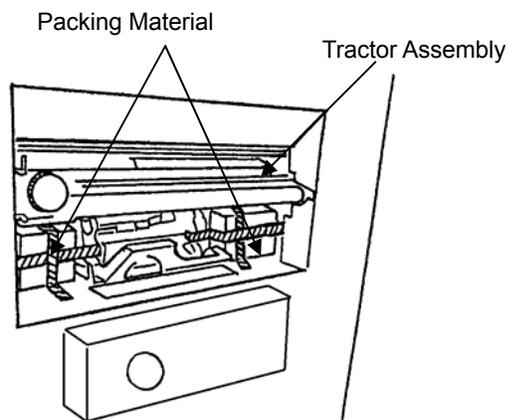

Figure 2-6
- Remove the packing material from underneath the tractor assembly as shown in Figure 2-6.